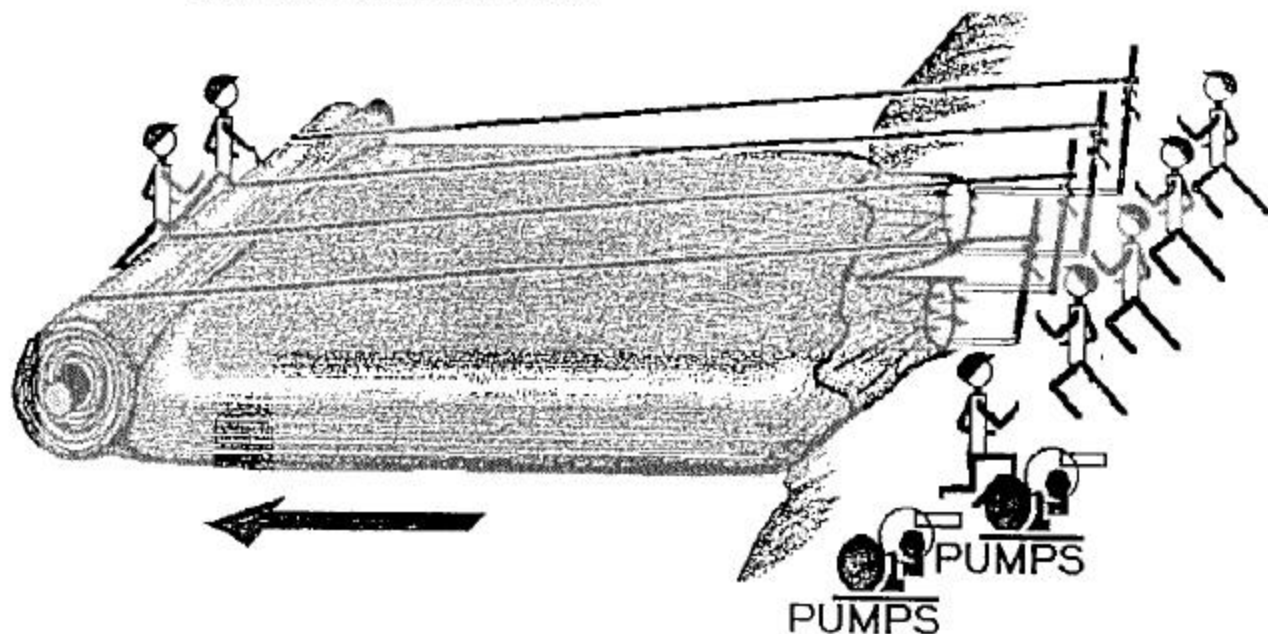

Figure 4. AQUA DAM Water Structure during installation showing the location of the ropes, hold back bar and the inflating structure.
2. If ropes are to be used in the installation process, they should be cut and placed under the structure at this time, before water is added, and secured to the hold back bar or stationary piece of machinery, see **Figure 4**. Without these lines or ropes the pressure of the water in the "inner tubes" would cause the structure to unroll before the proper inside head pressure is achieved. The number of ropes (lines) required by a particular sized structure is discussed in **Table 2** and **Figure 4**. The ropes are attached to the base of the hold back bar, then run under the structure, over the top, and back to the bar, where they are tied off in a manner that would allow the rope to be let out sparingly. The rope should be twice as long as the length of the structure when inflated, plus an extra 50 feet. One labourer should man each rope and each labourer should understand all signals that might be used during the unrolling and inflation sequence.
8. When the second section is filled, the water hoses can be removed from the 'inner tubes'. The tubes are rewrapped with duct tape tightly and in such a manner that the tubes will stand upward by themselves. If possible, use duct tape to attach the two upright 'inner tubes' together, making them even more stable and preventing water from leaking out of the 'inner tubes'. Remember the 'inner tubes' are not on top of a berm, above water level, and lying flat on the ground as was the case for the first section, see **Figures 4 and 5**. Water could easily leak out of the 'inner tubes', if they were allowed to lay flat on the surface of the master tube. Keep the inlet tubes standing erect and tape accordingly.